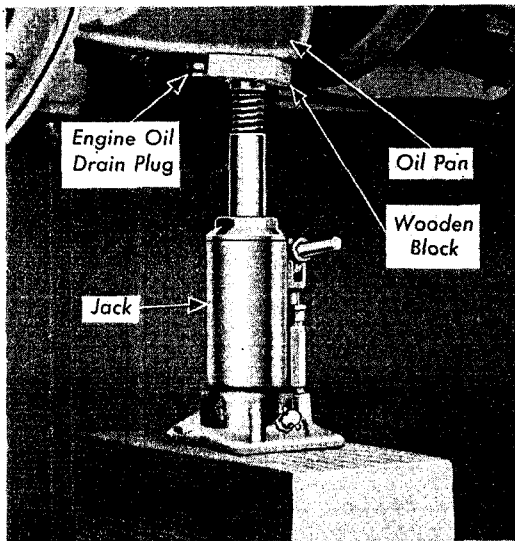

Fig. 17 Supporting Engine
3. Place jack under engine oil pan near drain plug, using a wooden block to prevent damage to oil pan. See Plate 55, Fig. 17.